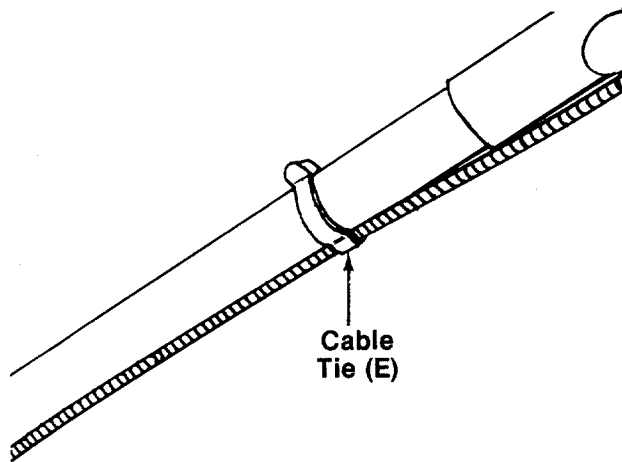

FIGURE 11.
19. Secure throttle control and brake cables to upper and lower handles with cable ties (E). See figure 11.